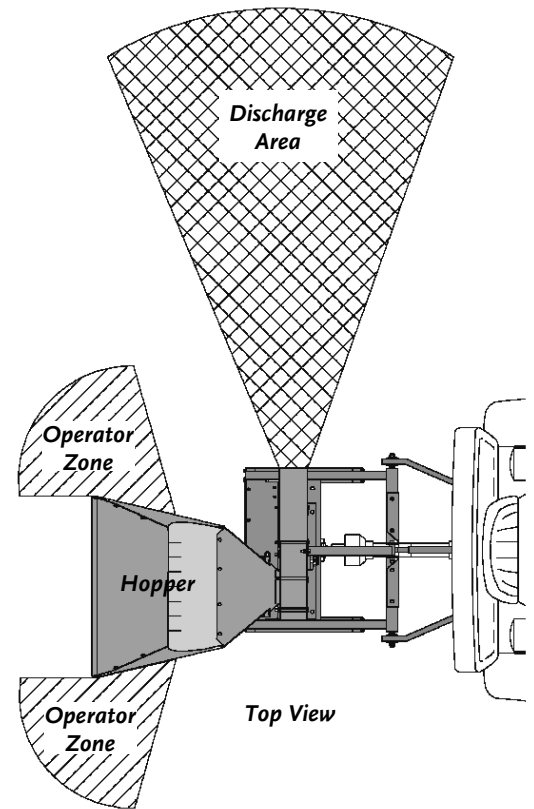

Figure 24
- Only operate the DR SELF-FEEDING CHIPPER from the Operator Zones shown in **(Figure 24)**.